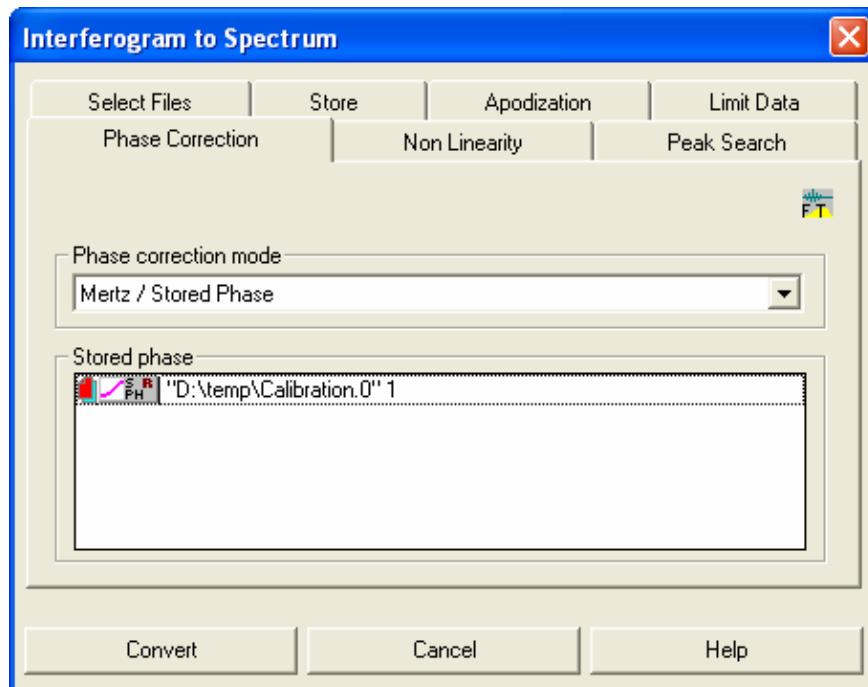

Fig. 28: Calibration phase spectrum in the “Stored phase” field.
- Also for this conversion, do NOT store the phase (i.e. deactivate the “Save Phase” check box on the “Store” page). Click on the “Phase correction” tab. This time, select in the “Phase correction mode” drop-down list the option “Mertz/Stored Phase”. Drag & drop the data block “SPH^R” (calibration phase spectrum) in the “Stored phase” field. (See figure 28.) All the other parameter settings have to be identical to the previous “Interferogram to Spectrum” conversions. Click on the “Convert” button. As a result, two additional data blocks are added to the file resulting from the sample measurement. The spectra of these data blocks are usually much smaller in intensity than the constant single channel sample spectrum. The data block “SSC^R” contains the in-phase single channel sample spectrum and the data block “SSC^I” contains the out-of-phase single channel sample spectrum.